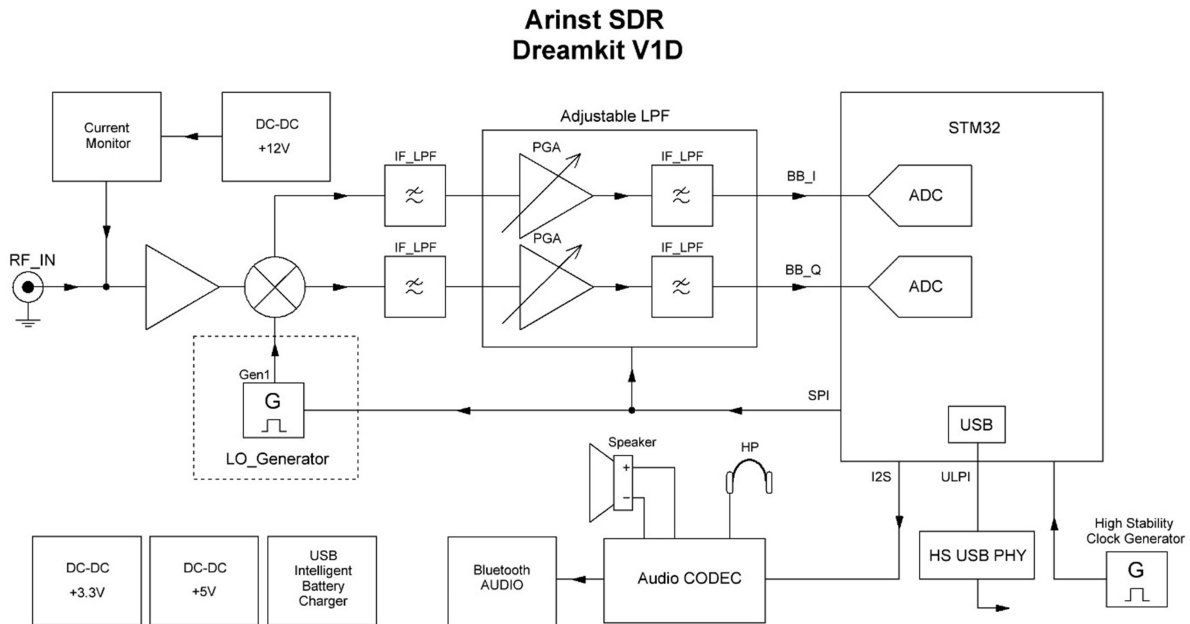

Figure 1.1 - Block diagram of the SDR receiver
The block diagram of the radio receiver is shown in Figure 1.1. The receiver is built according to the SDR (Software-defined radio) scheme. A low-noise amplifier is installed at the input. This is followed by a quadrature mixer, which divides the input signal into in-phase (I) and quadrature (Q) components and transfers them to the zero IF. Quadrature signals (IQ) before digitization pass through the LPF with a constant cut-off band and are amplified by an IF amplifier. This is followed by another signal filtering cascade. After filtering, the signal is digitized by high-speed ADCs built into the STM32 microcontroller. Further signal processing: decimation, digital transfer, filtering, demodulation and other transformations are carried out in digital form. The demodulated signal can be displayed graphically on the screen or played back using a high-quality audio codec on a built-in speaker, wired headphones or a Bluetooth audio device. It is possible to connect the receiver to a personal computer via a High Speed USB interface to manage settings and transmit the IQ data stream. The entire circuit is powered by two highly efficient, low-noise voltage sources. The circuit is clocked from a high-precision, thermocompensated clock signal generator. The receiver also has the ability to supply an internal voltage of 12V to the input high-frequency connector. This allows you to connect external active devices such as an amplifier or a source repeater (for better reception on electrically short antennas). The maximum current consumed by the external device is controlled by a current sensor. If the maximum current specified in Table 1 is exceeded, the output connector of the receiver will be de-energized. The built-in battery is charged using an intelligent charger, which automatically determines the maximum current allowed for the connected power supply and charges the battery according to the required profile.